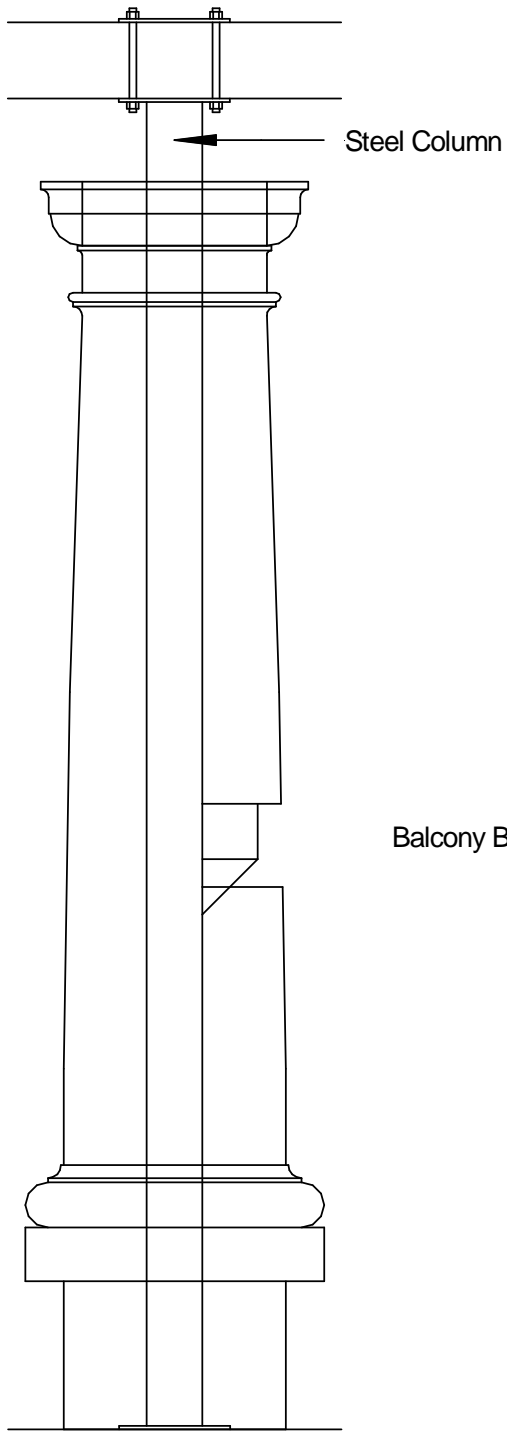
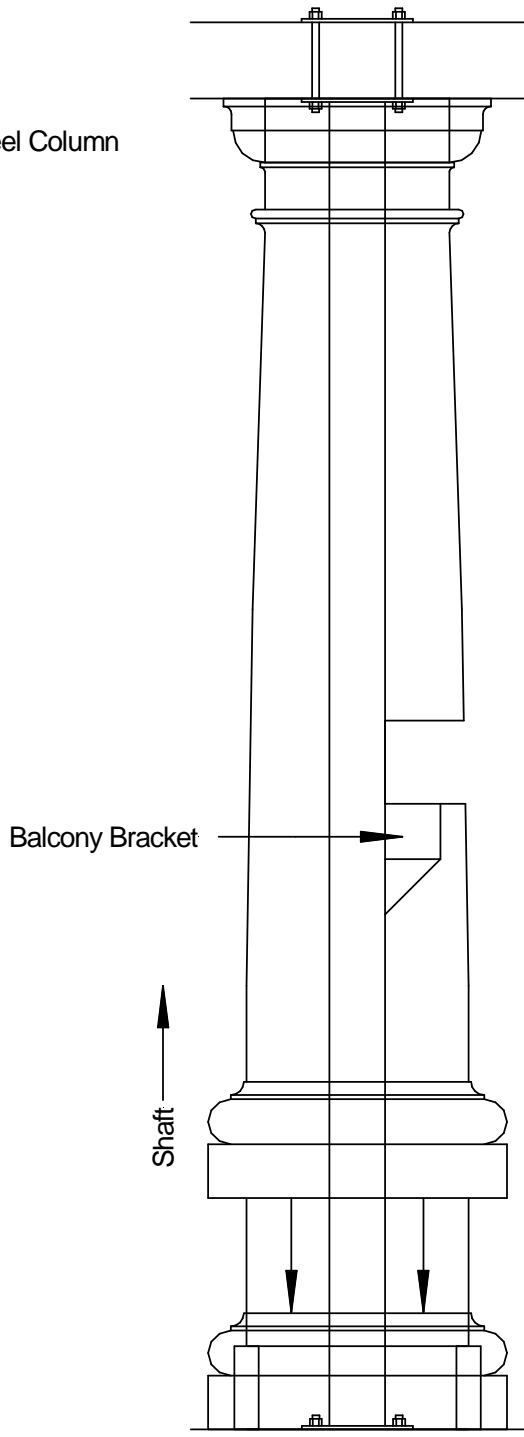

Figure 1a
Figure 1b
- **Step 2:** Now that the column is in place and the interior shaft is perfectly vertical, the plate at the top can be bolted / welded to the soffit; see **Figure 1a** below. Once the top is attached, the fiberglass column can be lifted a few inches to attach the bottom plate to the substrate; see **Figure 1b** below.
- **Step 3:** The fiberglass column is then fixed in place when the top of the capital is pressing up against the soffit. Shim the 4-6" gap using galvanized 18-gauge drywall studs or plastic load-bearing material; see **Figure 1b** below.